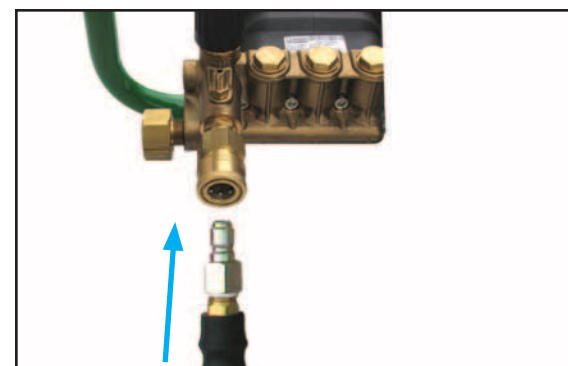

FIGURE 6
3. Uncoil high pressure hose and attach to high pressure outlet. (See Figure 6)